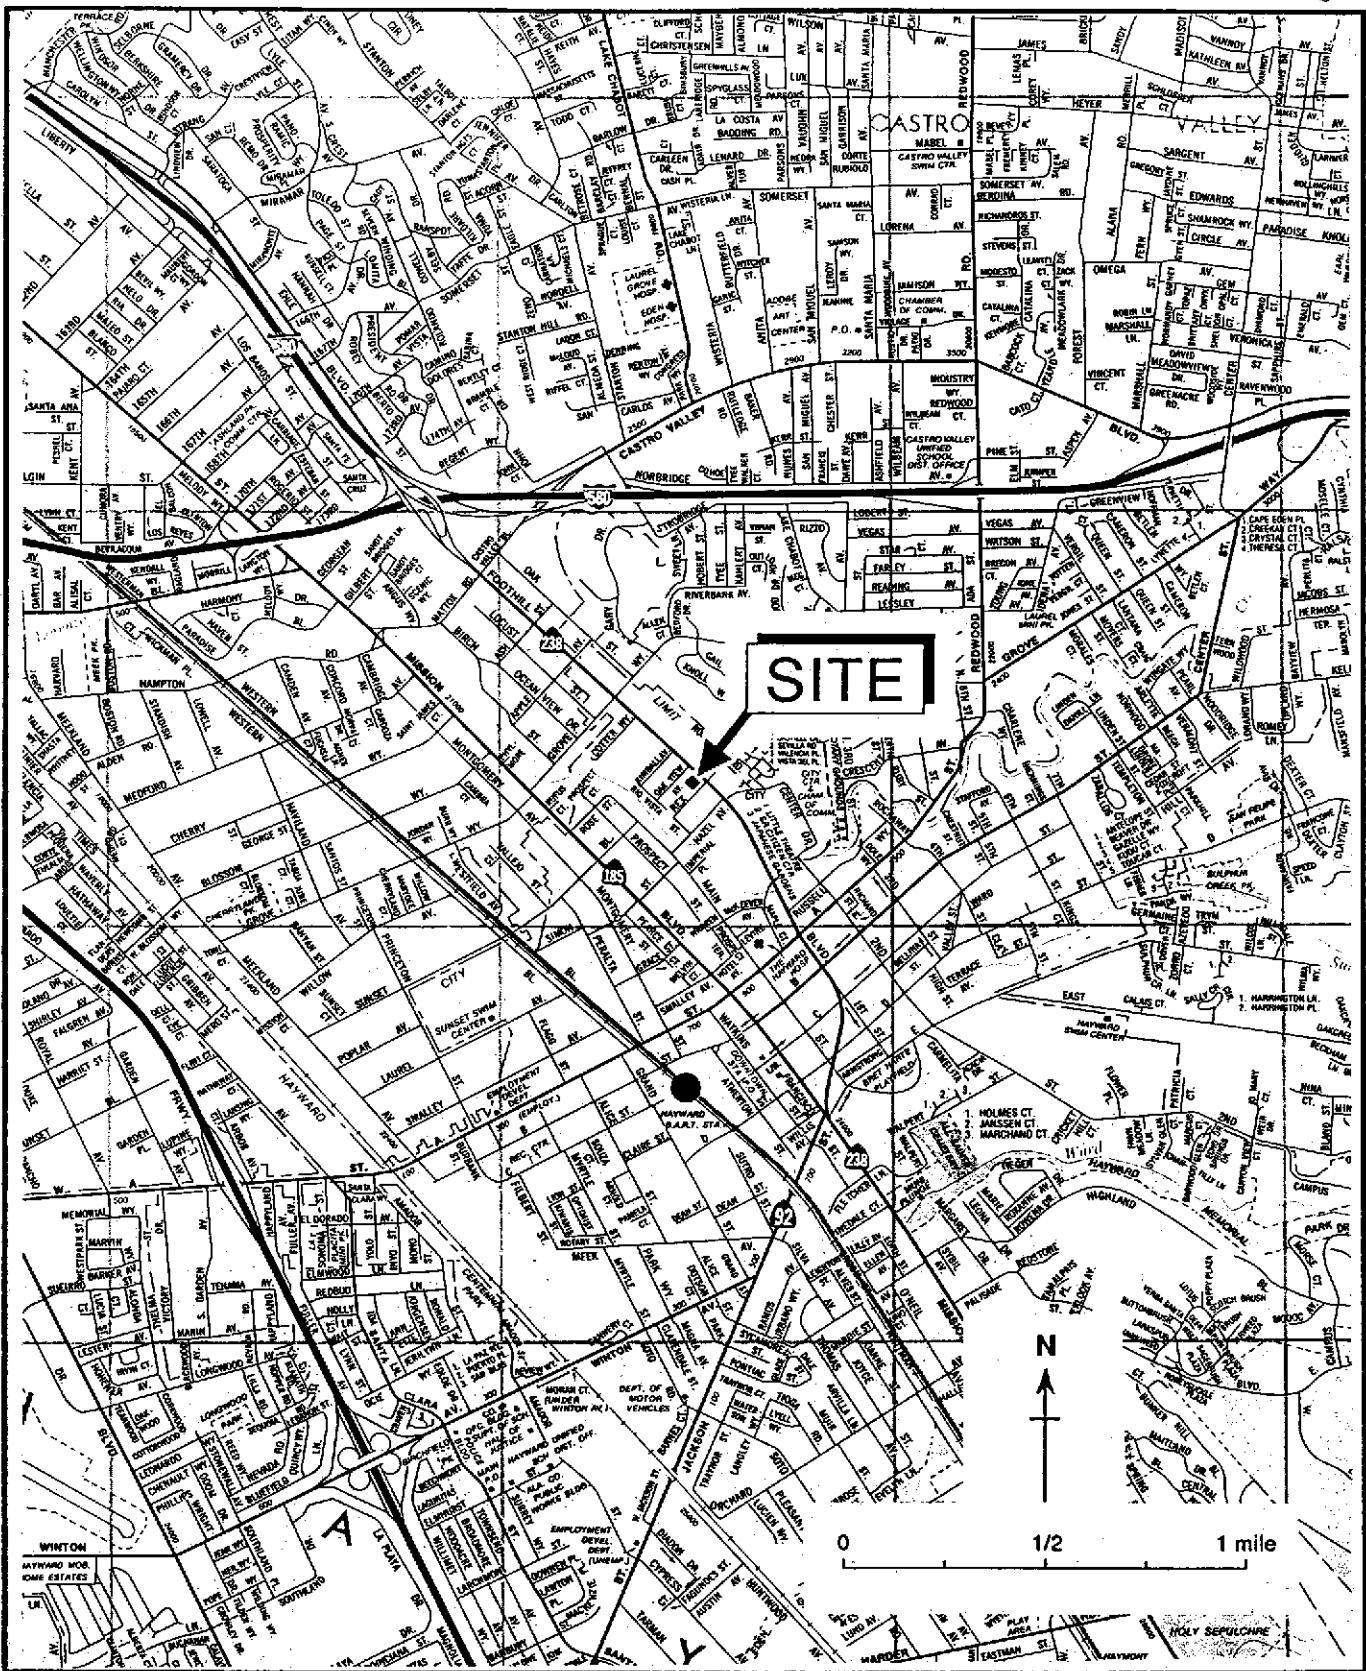

Figure 1. Site Location Map - Chevron Service Station #9-0260, 21995 Foothill Boulevard, Hayward, California
This letter presents Weiss Associates' (WA) proposed workplan to install one ground water monitoring well and one piezometer downgradient of the Chevron service station referenced above (Figure 1). The objectives of this work are to further assess the extent of hydrocarbons in ground water downgradient of the site and to evaluate what effects San Lorenzo Creek has on the underlying ground water flow direction and gradient. Below is an outline of our proposed scope of work and our estimated time schedule to complete the project.